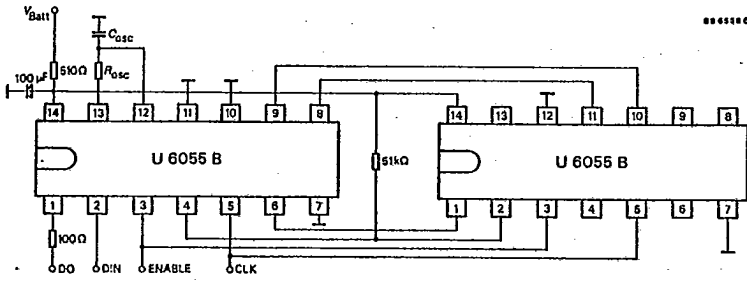

Fig. 8
- CLK and ENable are parallel-connected and DOUT_{MASTER} connected with DIN_{SLAVE}. The data word is loaded as a 16-bit word, Fig. 8.